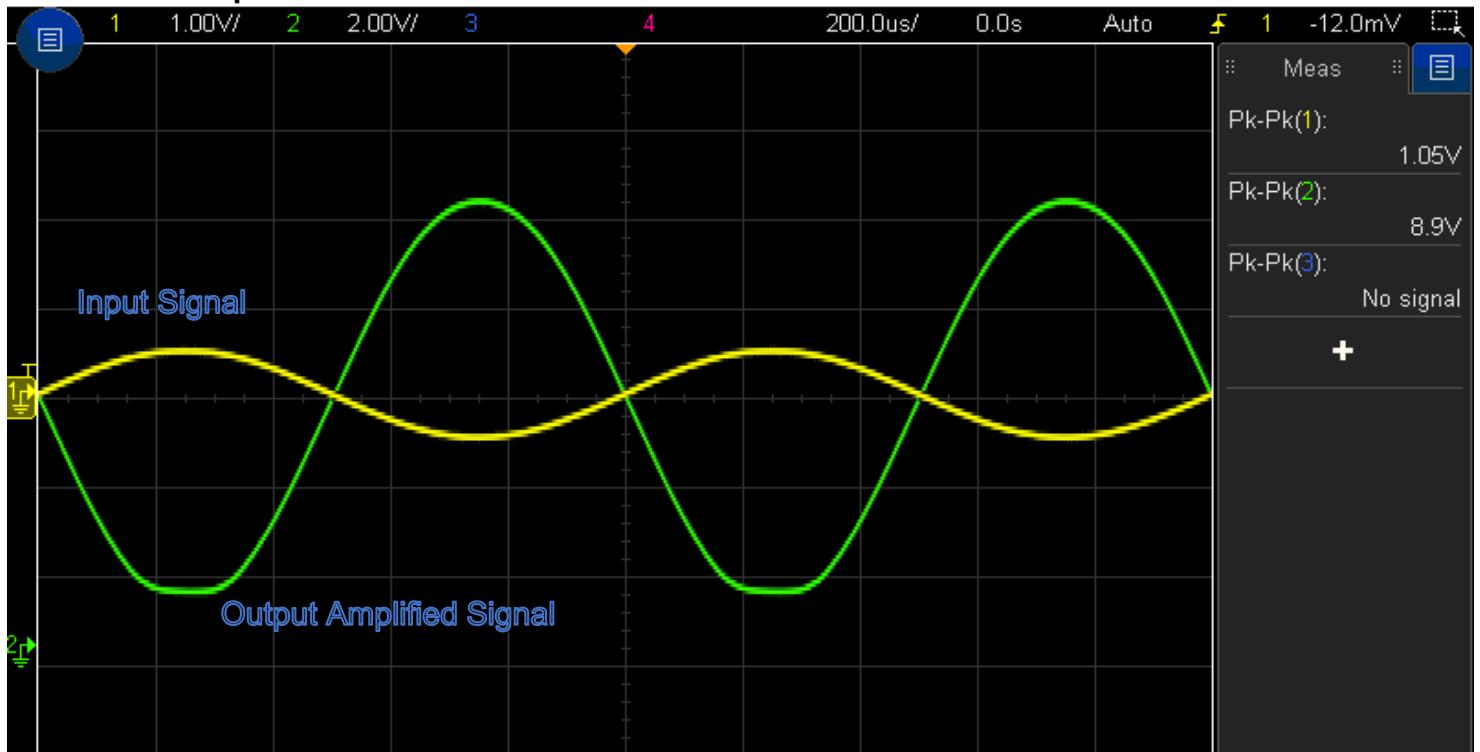
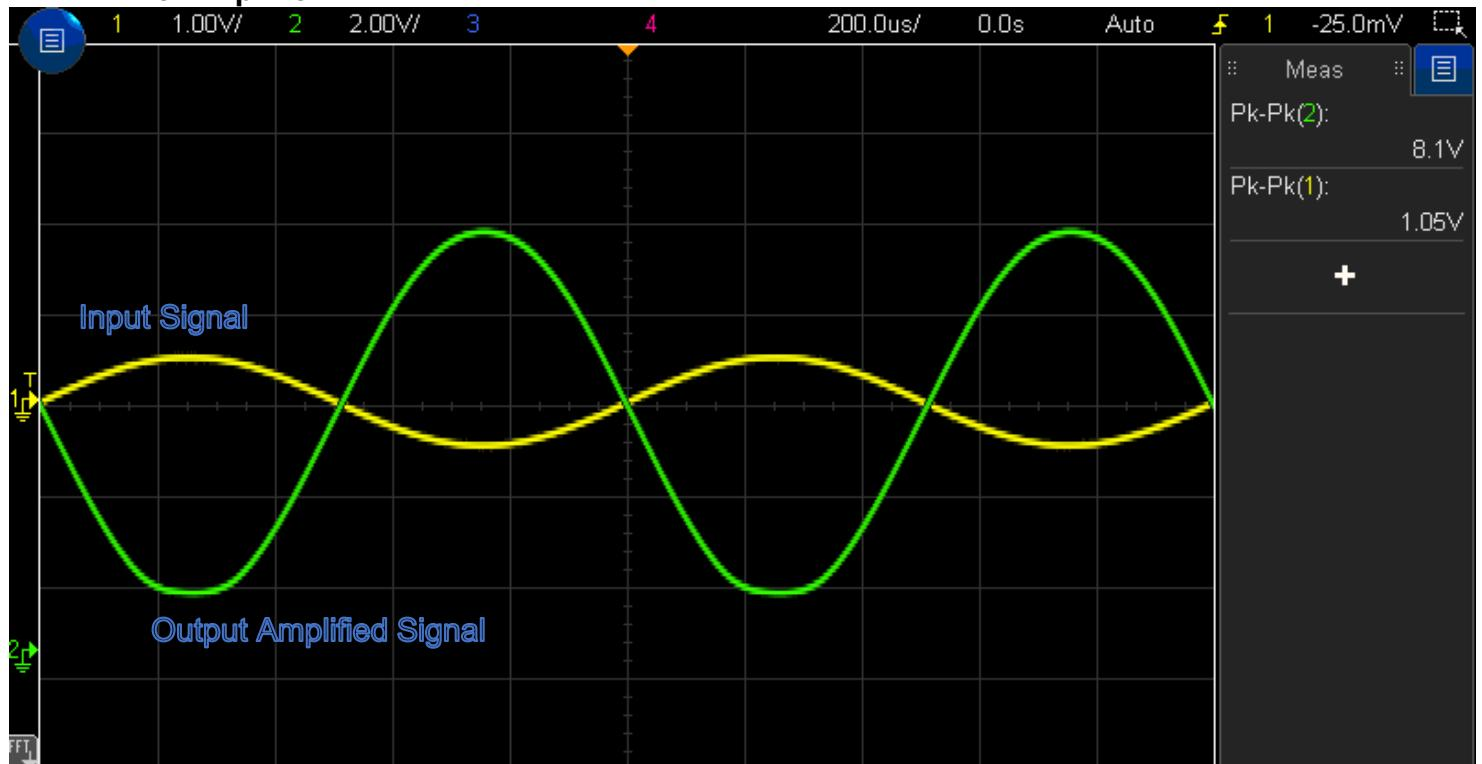
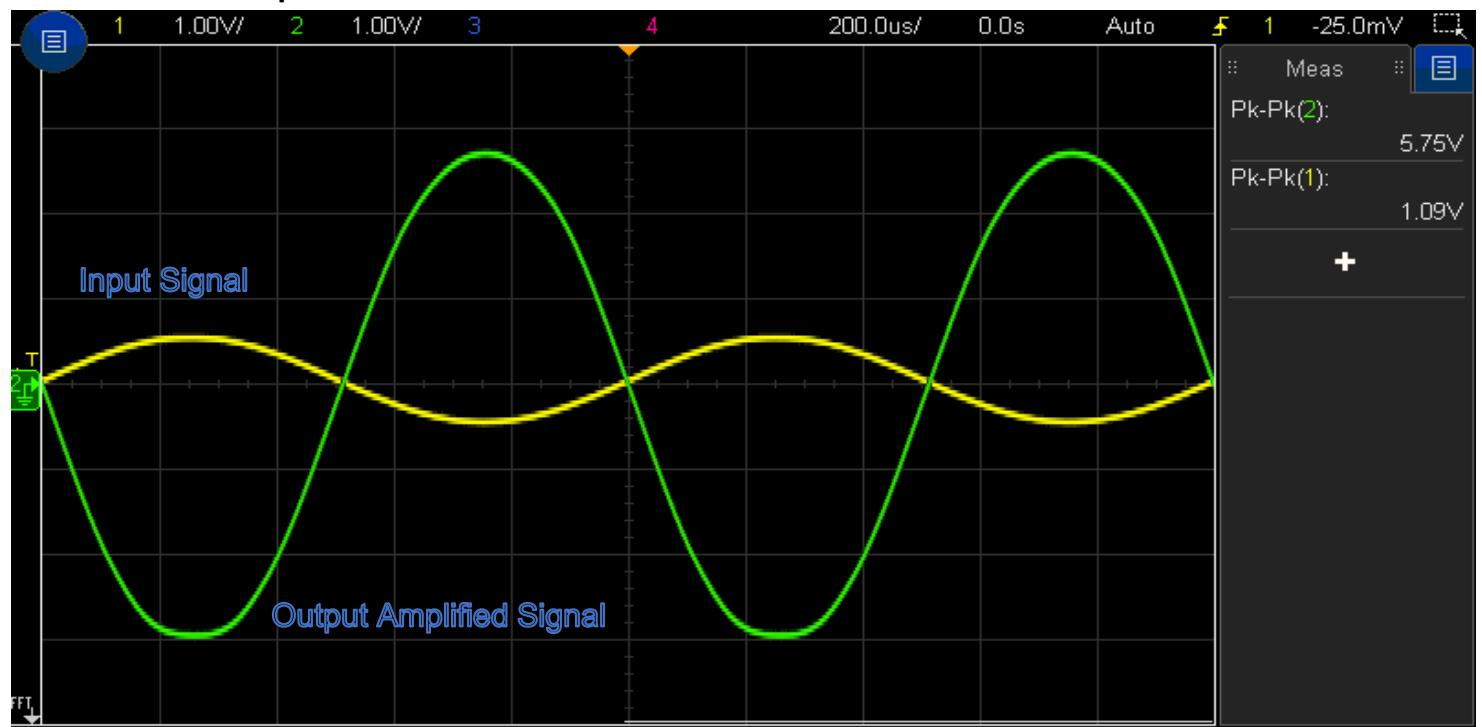
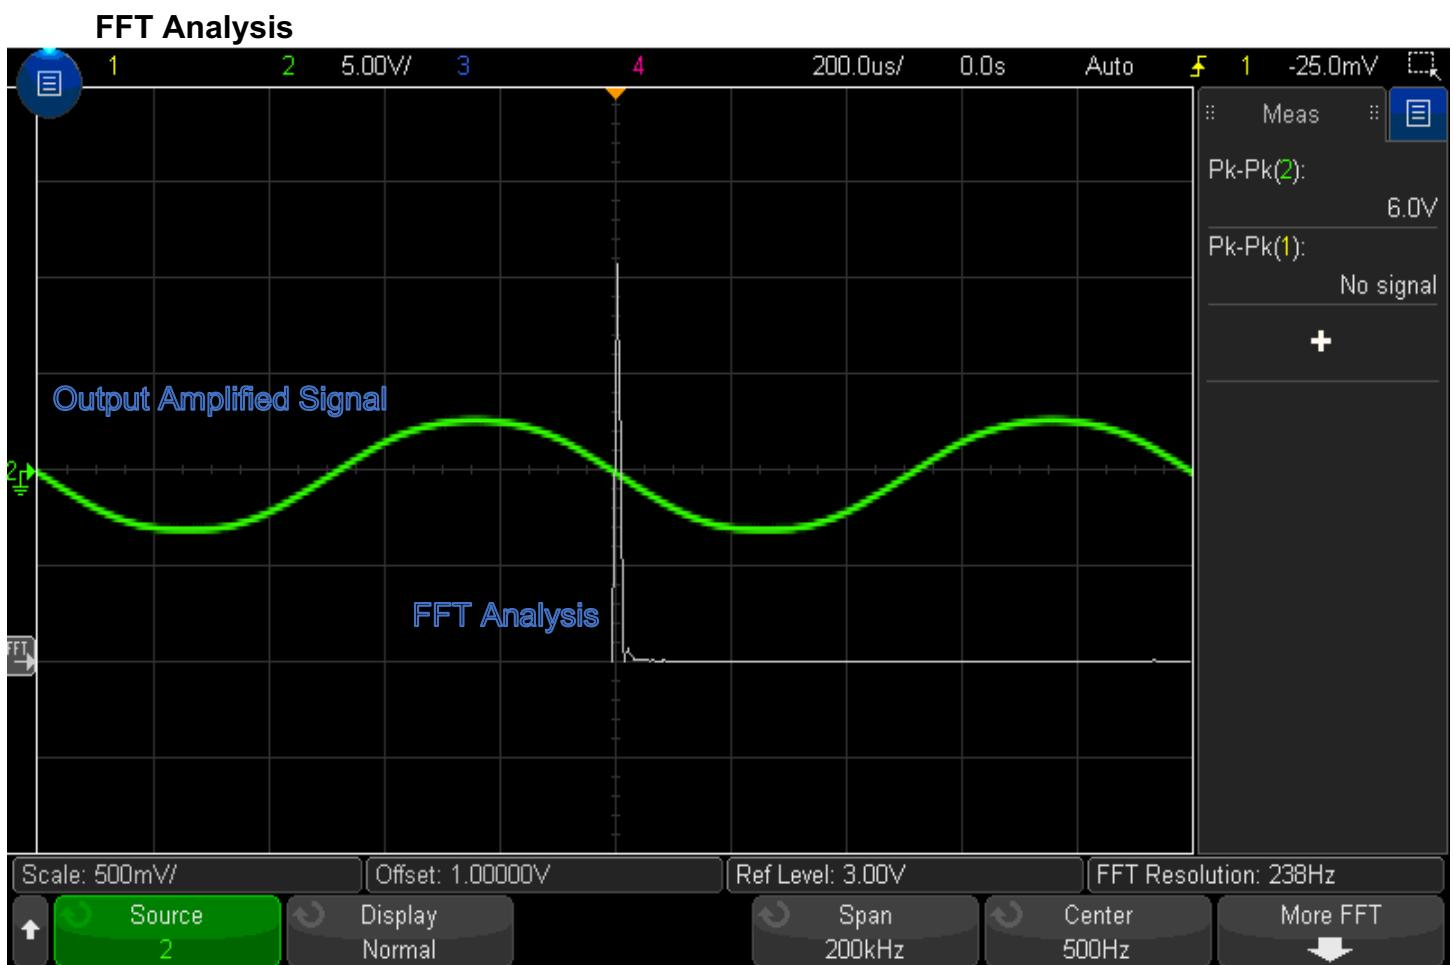

Fig. 3 – Output for Pre-Amplifier Stage
Fig. 6 – Output for Pre-Amplifier Stage
Fig. 7 – Output for Power Amplifier Stage
Fig. 8 - FFT Analysis of Output wave from Power Amplifier Stage
- **1*** - Please refer to **Fig. 3 & Fig. 6** to see amplified results for different headphone impedances.
- **2*** - Please refer to **Fig.4 & Fig. 7** to see results from Power amplifier for different headphone impedances.
The first stage of the design consists of a preamplifier design. This is essentially a Class A audio amplifier which is implemented in order to boost the voltage of the 1 V pk-pk signal that the subsystem receives as input. A major design consideration that has been made here revolves around amplifying voltage to the adequate level while maintaining low noise in the signal. The design consists of two biasing resistors followed by a NPN transistor. This part of the design is powered by a +13V DC power rail. The output for the Pre-Amplifier stage can be seen in **Fig. 3** which shows a 1 V pk-pk signal being amplified to the required voltage. This is also consistent with the simulation results that I have for the preamplifier stage.
Currently the design supports all headphone impedances and to show this I have tested it with the 16Ω and 600Ω impedances. The design also has low noise and this is shown in **Fig. 5** by FFT analysis where there is only one major peak which shows there is little distortion. Results shown in **Fig. 6**, **Fig. 7** and **Fig. 8** demonstrate working at different headphone impedance from the ones shown previously for the Pre-Amplifier, Power Amplifier and the FFT analysis.